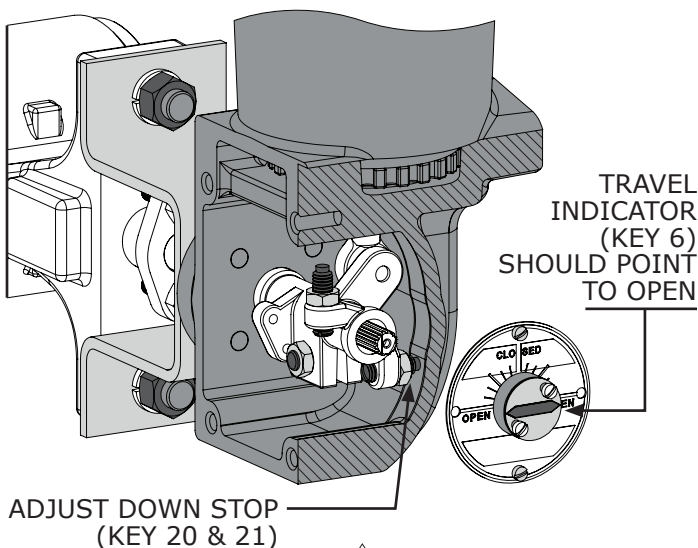

Figure 6 Mounting Adjustment for Push-Down-To-Close
- 11 Loosen the jam nut (Key 21) on the up travel stop. Adjust the up travel stop (Key 20) so that the valve ball/disc is in the fully open or closed position as required. Lock the travel stop in place by re-tightening the jam nut. Refer to Figure 6.